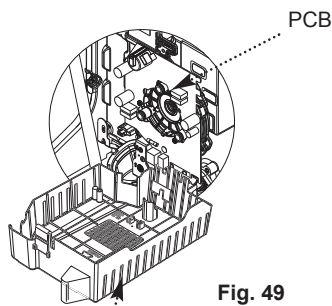

Fig. 49
3. Taking care not to touch the PCB components, disconnect the electrode lead, earth lead, mains power cable and the main sensor harness from the board. Re-engage the fan protective cover (Fig. 49).